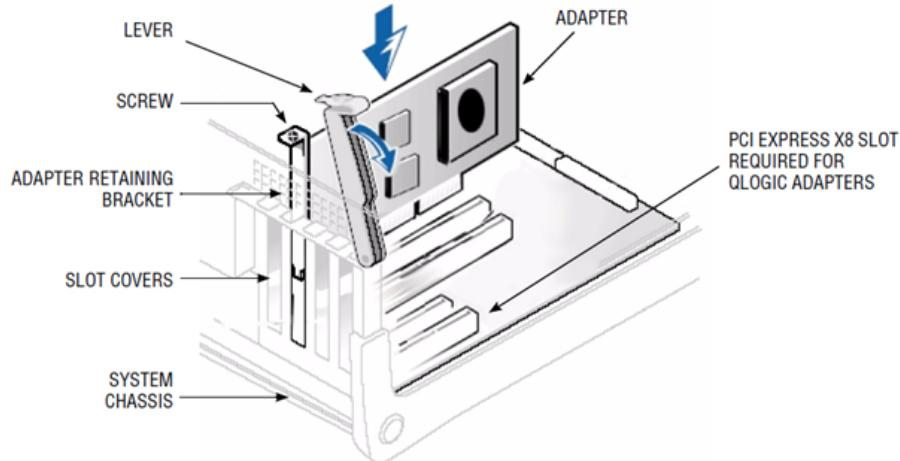

Figure 3-3. Adapter Hardware
6. Grasp the adapter by the top edge, and insert it firmly into the slot (Figure 3-3).